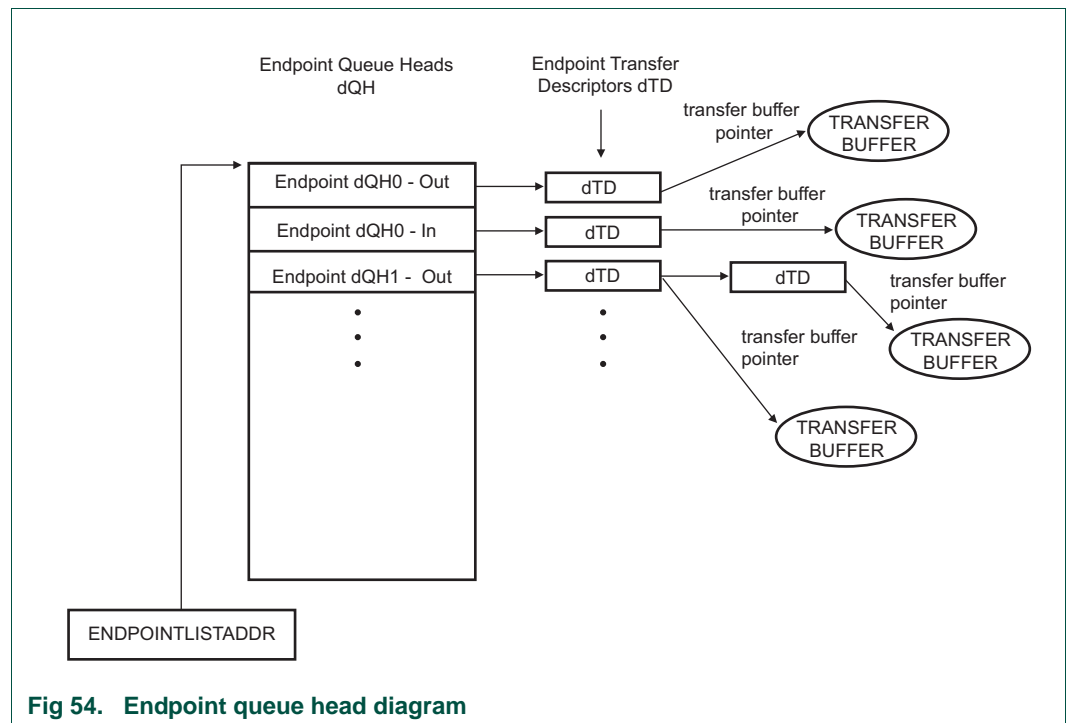

Fig 54. Endpoint queue head diagram
The device queue head (dQH) points to the linked list of transfer tasks, each depicted by the device Transfer Descriptor (dTD). An area of memory pointed to by ENDPOINTLISTADDR contains a group of all dQH's in a sequential list as shown in Figure 54. The even elements in the list of dQH's are used for receive endpoints (OUT) and the odd elements are used for transmit endpoints (IN). Device transfer descriptors are linked head to tail starting at the queue head and ending at a terminate bit. Once the dTD has been retired, it will no longer be part of the linked list from the queue head. Therefore,